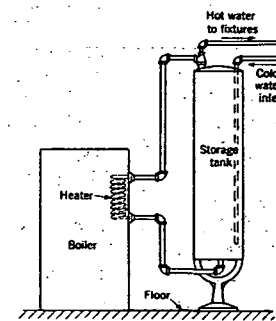

FIG. 10. INDIRECT WATER HEATER PLACED IN BOILER
4. Submerged indirect water heater, placed in boiler below water line. (Fig. 10).